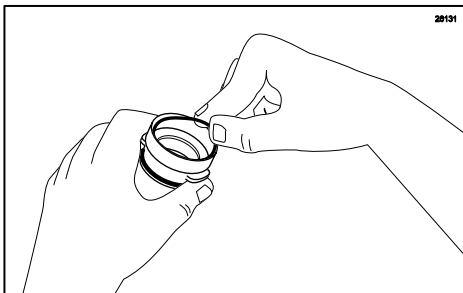

Figure 84
3. Remove the two black o-rings and white gasket from the Spout Adapter. (See Figure 84.)